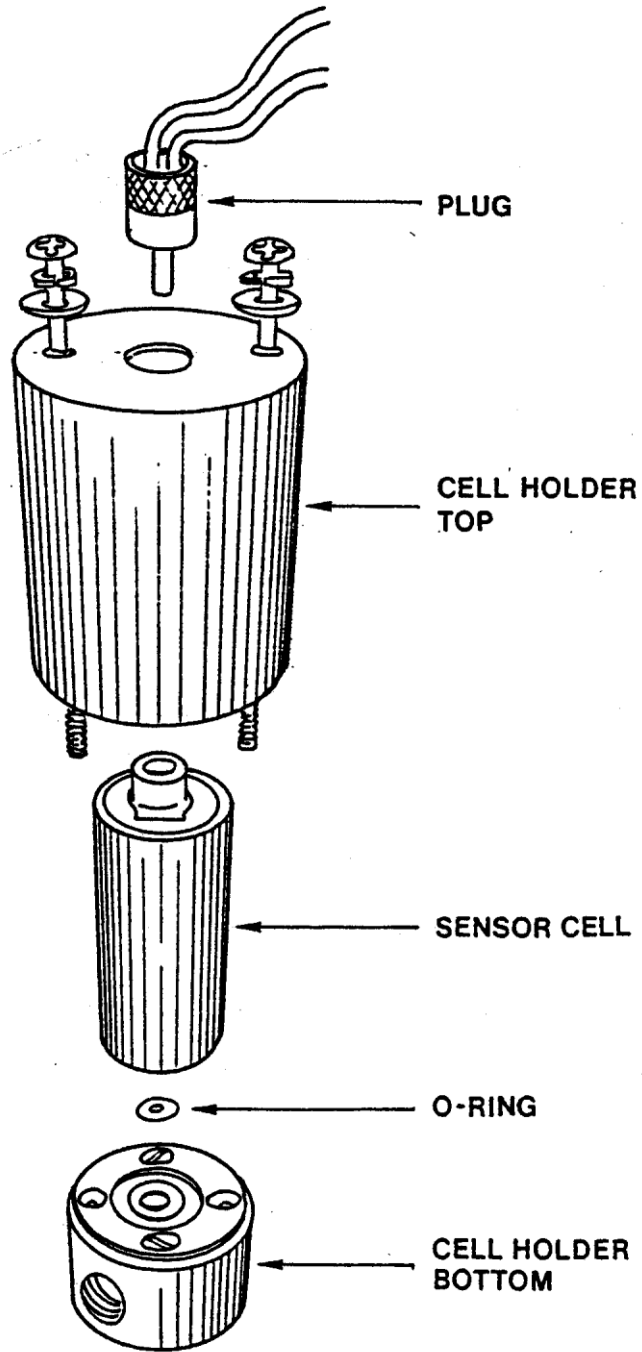

Figure 8: O₂ Sensor Cell & Holder
2. Remove the electrical plug from the top of the cell assembly (see Figure 8).